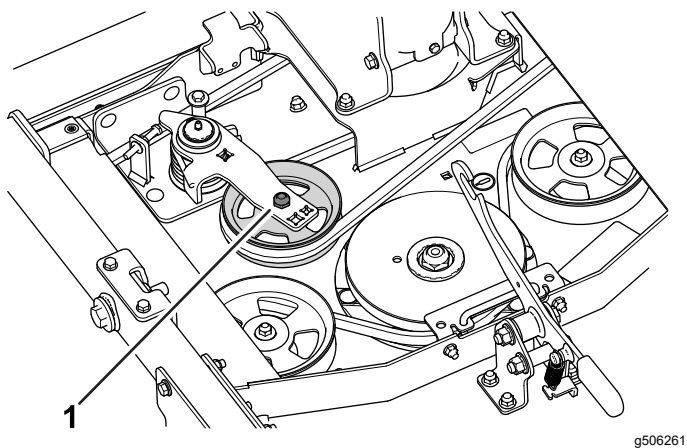

Figure 2
2. Using a socket wrench or similar tool, move the idler pulley (Figure 2) away from the drive belt to release the belt tension and allow the belt to slip off the idler pulley.